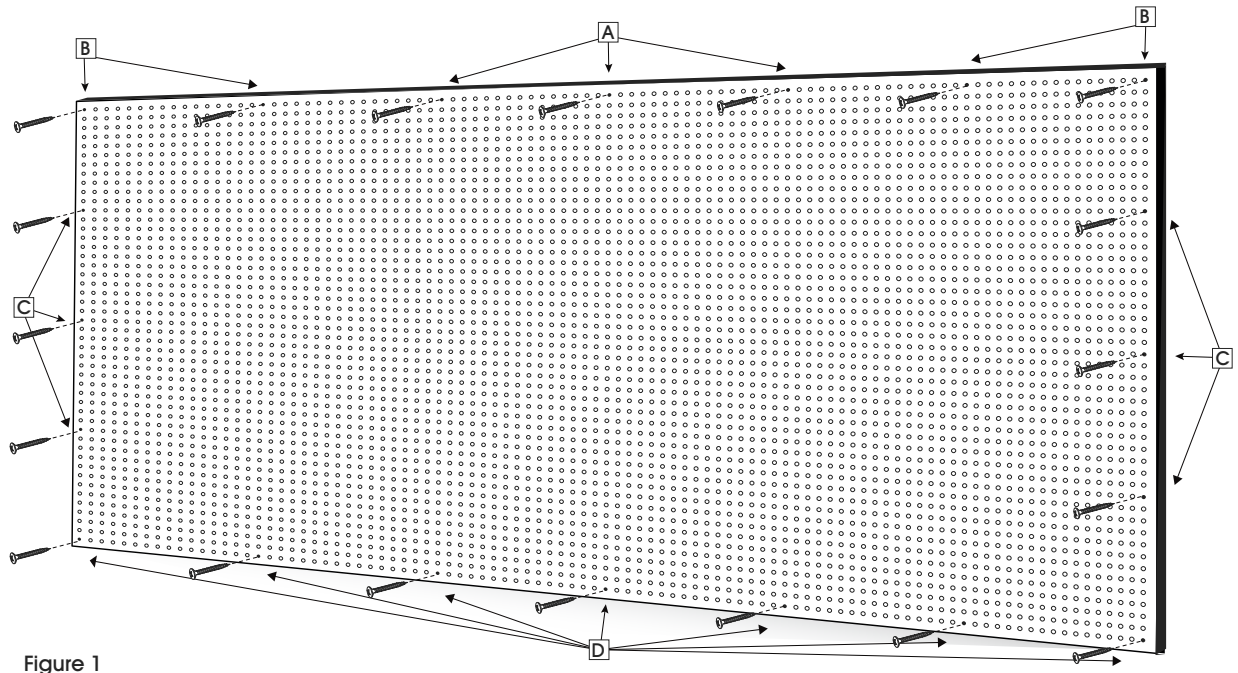

Figure 1
2. With two people holding the pegboard in place, mark holes on wall for hanging. (See Figure 1)
HANGING PEGBOARD (See Figure 1)